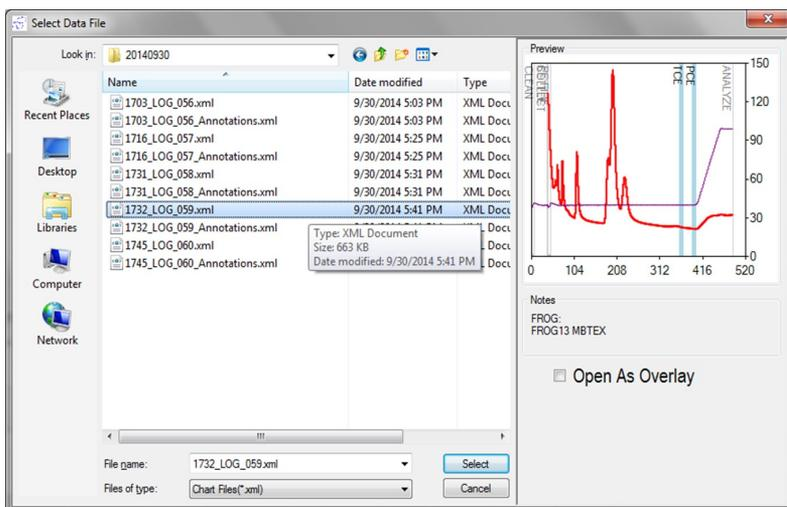

Figure 4.7-4: File Selection Screen
17. A preview chromatogram of the selected file appears to the right of the file list (Figure 4.7-4).